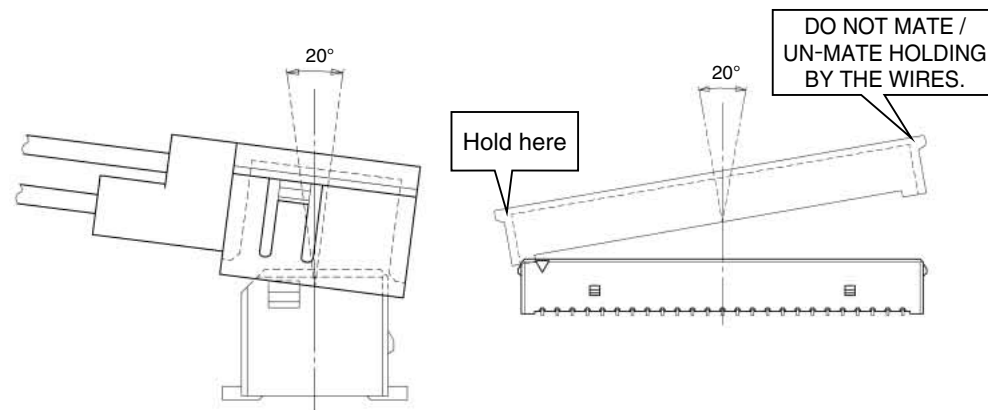

Fig. 2. Mating / Un-mating
- \* Hold the socket at both ends (as illustrated on Fig.2) when mating or un-mating. The mating/un-mating of the connectors must be within the indicated angle of 20° on both axis.